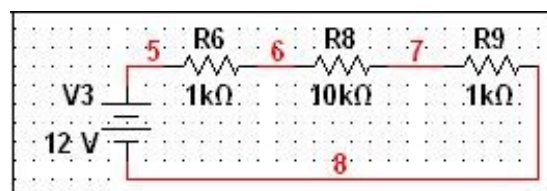

Figure 3.1: Question 1
- Resistors in series: Assemble the circuit in figure 3-1 with component values (as provided in lab). Take measurements to complete the entries corresponding to the experimental values in table 3-1.